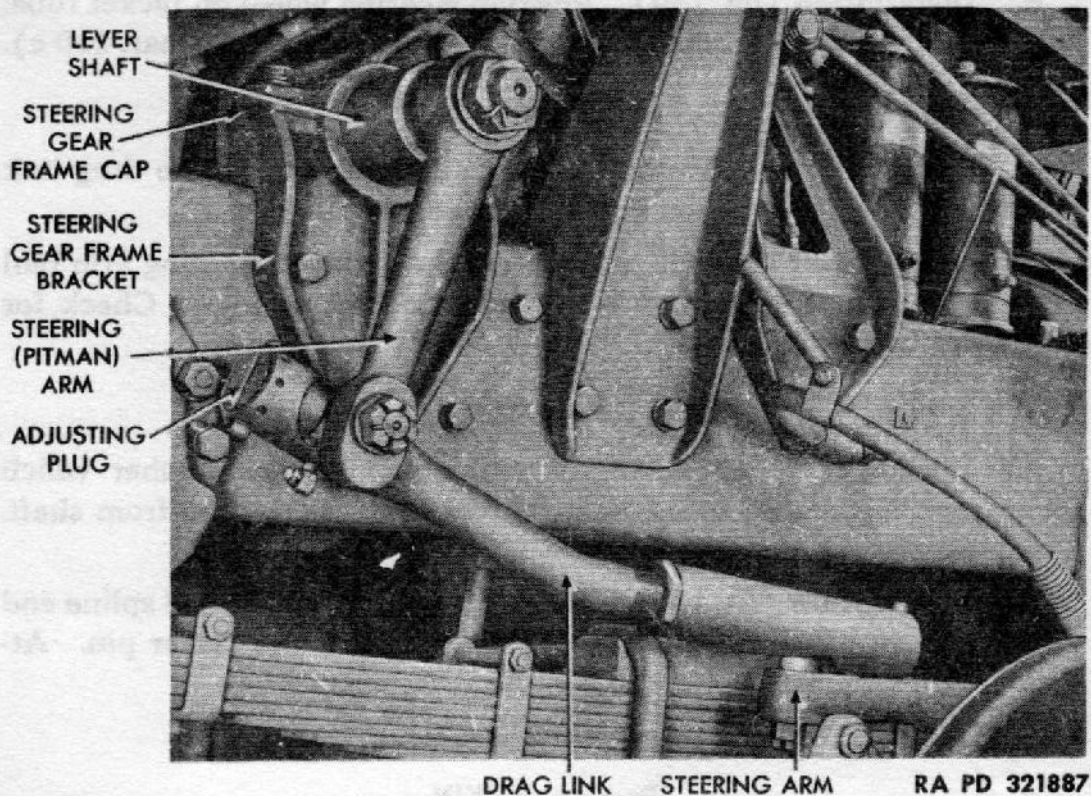

Figure 131 — Drag Link Installed
a. **Maintenance** (figs. 131 and 128). Periodically, check the drag link for excess slack or end play. Check steering jacket tube assembly for end play by attempting to move it back and forth on its axis. Keep steering gear housing filled with proper lubricant.
b. **Adjustment.** There are two principal adjustments on this steering gear and a supplemental adjustment on the stud-roller bearing unit in the lever shaft. Principal adjustments are: the adjustment of upper and lower cup ball bearings on cam, and the adjustment of the tapered ball stud in the cam groove for backlash. If an adjustment is required on the stud-roller bearing unit in the lever shaft, report condition to higher authority. When making adjustments outlined in steps (1) and (2) below, free the steering gear of all load by disconnecting the drag link from the left front wheel steering arm ball (par. 175 a).
(1) **ADJUST UPPER AND LOWER CUP BALL BEARINGS ON CAM.** Remove screws which secure the left-hand floorboards. Remove floorboards from cab. Remove screws which secure both left-hand splash shields under right fender. Remove both shields. Loosen housing side cover adjusting screw to relieve pressure of ball stud against grooves in cam. Turn steering wheel with thumb and forefinger. If more than a slight drag is felt, loosen the four upper cover plate hex nuts, lift the cover plate up, and add a thin shim. Shims are 0.002, 0.003 and 0.010 inch thick and must be cut at the holes to permit installation or removal without completely removing jacket tube. Tighten the hex nuts, to draw cover plate tightly against the shims, and test again by turning steering wheel. If looseness is felt when turning steering wheel with thumb and forefinger, repeat the above operation, but remove a shim, then tighten the upper cover plate, and recheck action of steering wheel. When this adjustment is completed, adjust the tapered ball stud for backlash (step (2) below).
(3) **ADJUST DRAG LINK END PLAY** (fig. 131). Remove the nut, lock washer, and bolt from adjusting plug at the end of the drag link where adjustment is to be made. Screw in adjusting end plug until slack is removed. Do not tighten more than necessary. Install bolt, lock washer, and nut which keep adjusting end plug from turning.
175. DRAG LINK (fig. 131).
b. **Installation** (fig. 131). Position drag link to steering arm ball at each end. Secure with the two nuts and cotter pins. Check for proper adjustment (par. 173 b (3)).
176. STEERING (PITMAN) ARM (fig. 131).
b. **Installation** (fig. 131). Tap steering arm on tapered spline end of lever shaft. Secure with the lock washer, nut, and cotter pin. Attach drag link to arm (par. 175 b).